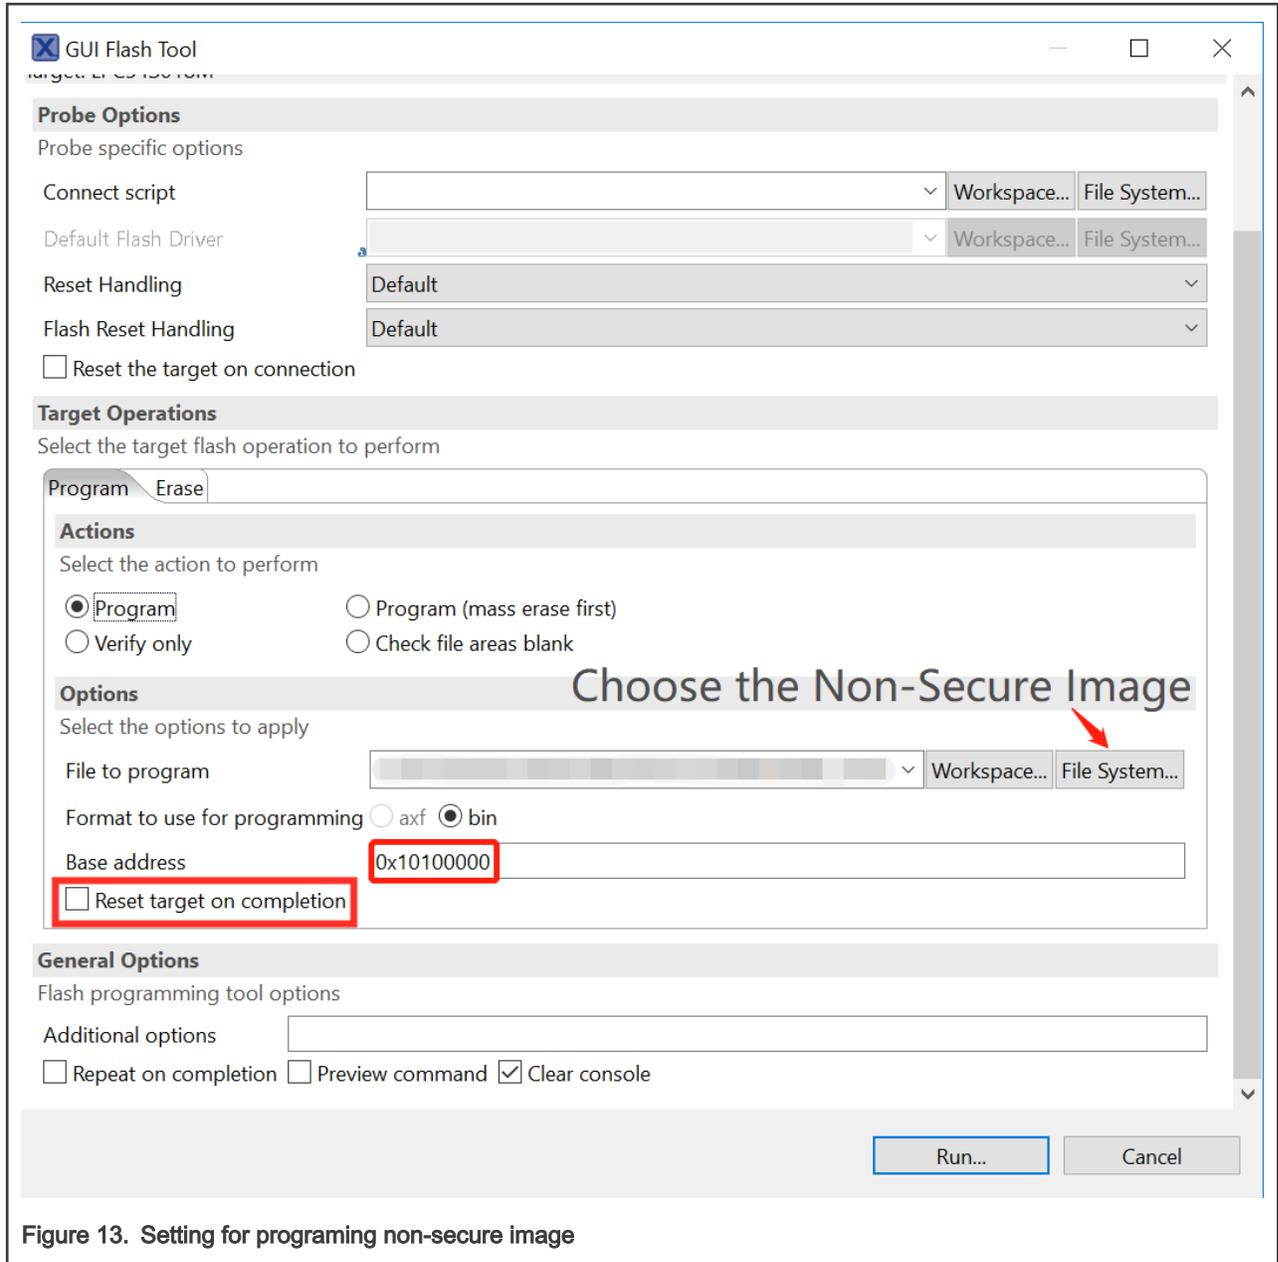

Figure 13. Setting for programming non-secure image
2. Change the configuration as shown in Figure 13, especially the red parts in the screenshot.